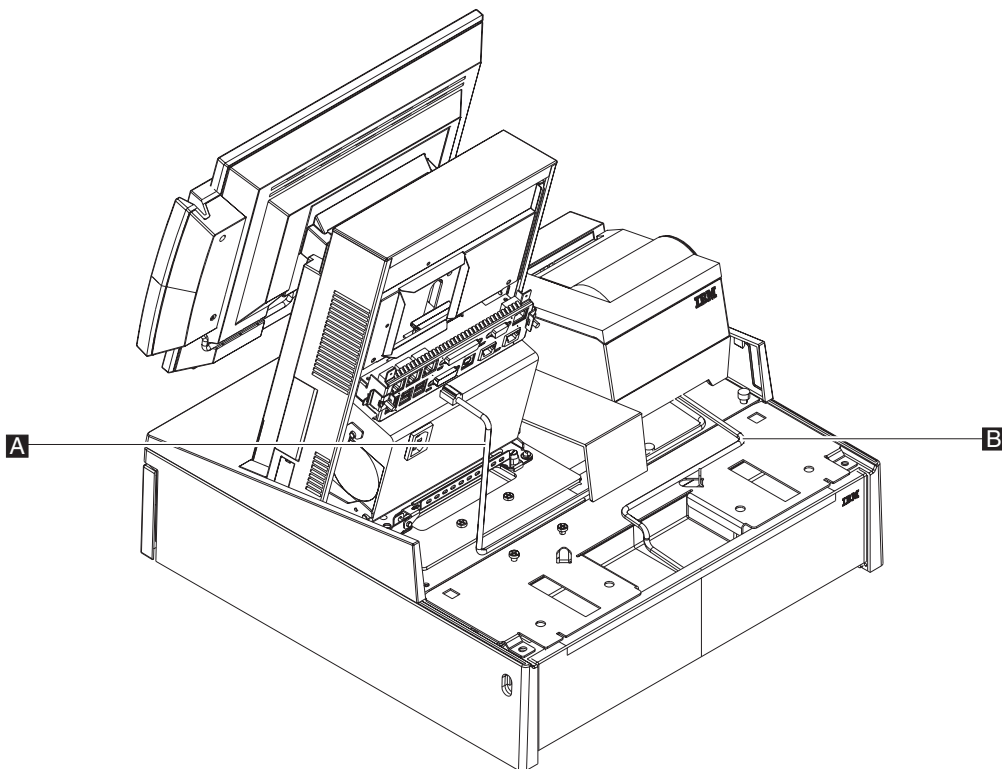

Figure 67. 4610 TF6 or TF7 cable routing
- c. Route the RS-232 cable **A** to the rear connector panel of the system unit as shown in Figure 67. Plug it into one of the three standard serial ports on the system unit.
- d. Route the printer power cord **B** toward the system and out through the hole in the integration tray, as shown in Figure 67.